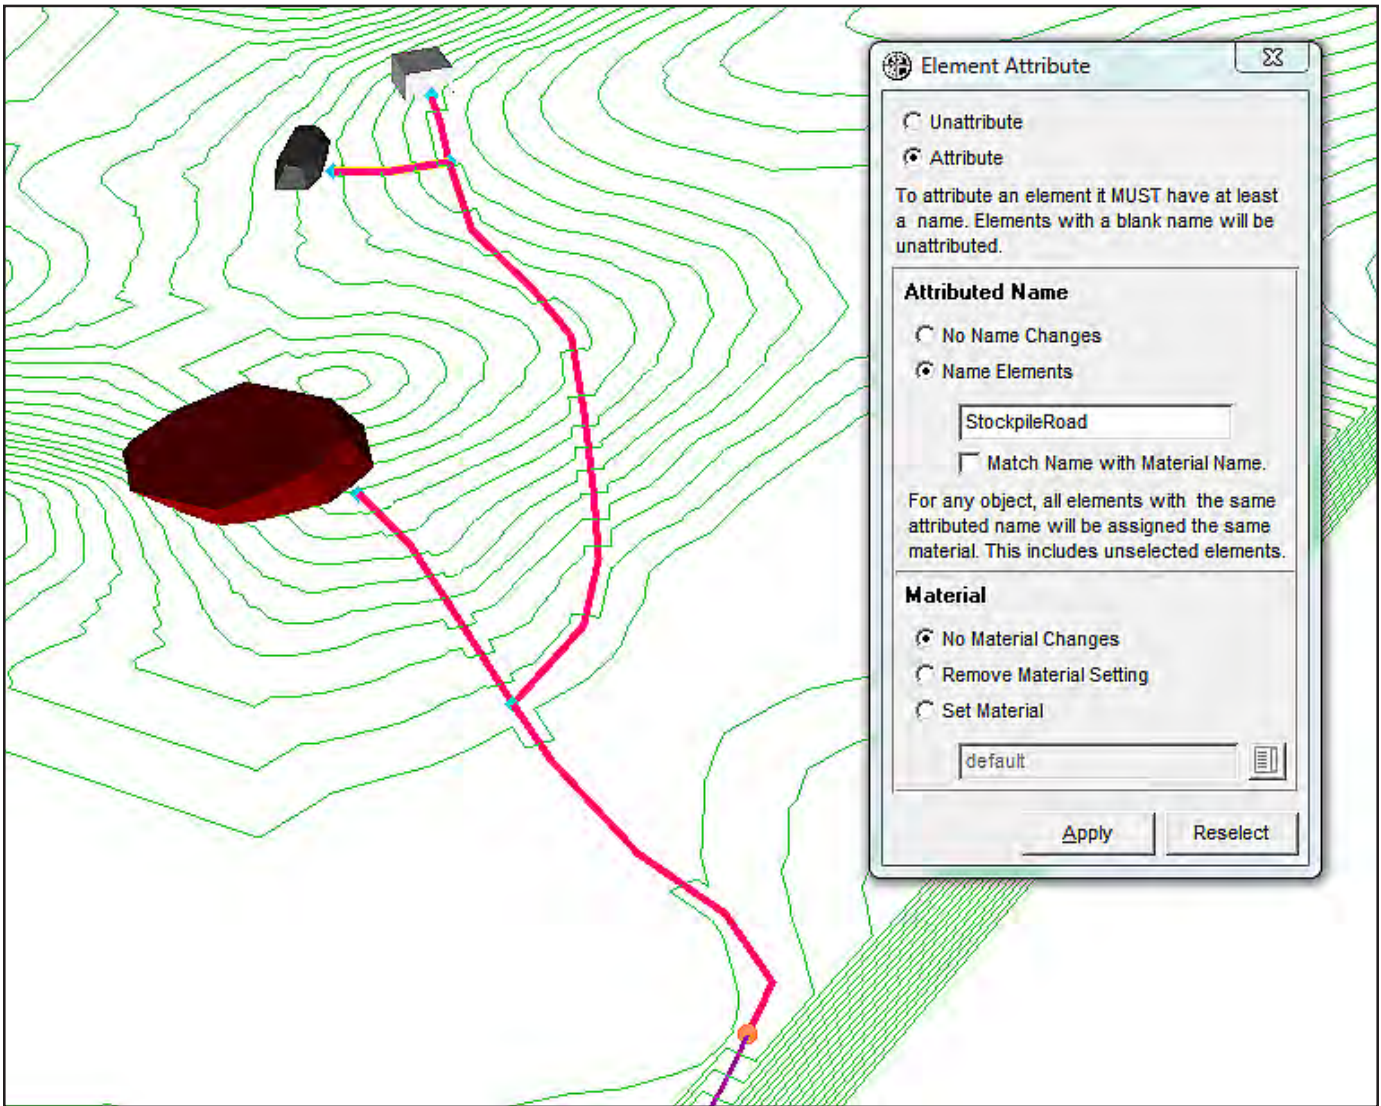

Figure 3. Attributing the Stockpile haul road with an element name.
b) Within the MS3D, project digitize polylines along the haul roads. Each road section must be between two of the points digitized in the previous step. To achieve this, point snap can be used to snap the polyline end points to the attributed points. These road polylines can optionally be attributed using the **Element | Attribute** function (Figure 3).